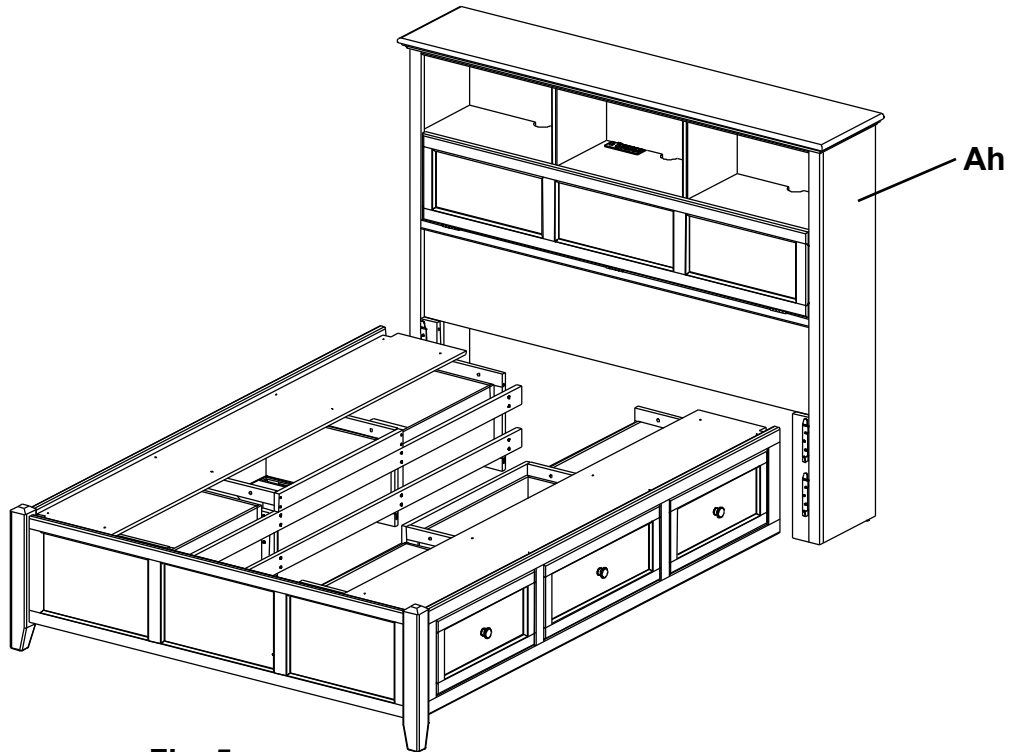

Fig. 5
5. Align the Brackets on both sides and slide the Pedestal/Footboard assembly down on to the Headboard (Ah). See Figure 5.